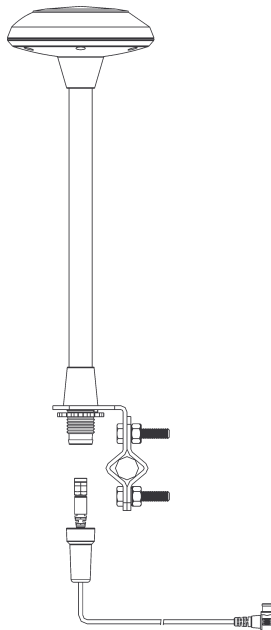

Figure 6. Cable Connector/Rubber Boot Connection
12. Take the cable connector (180 degree connector) not the Right-Angle SMB Connector and hand tighten over the connector on the bottom side of the Antenna Assembly. See Figure 6.
14. Place the rubber boot over the end of the Antenna Assembly shaft after the cable connector has been tighten. See Figure 6.